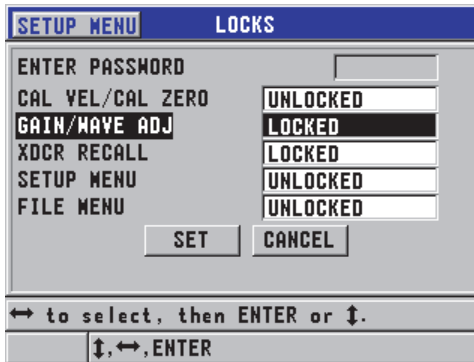

Figure 7-10 The LOCKS screen
2. In the **LOCKS** screen (see Figure 7-10 on page 138):